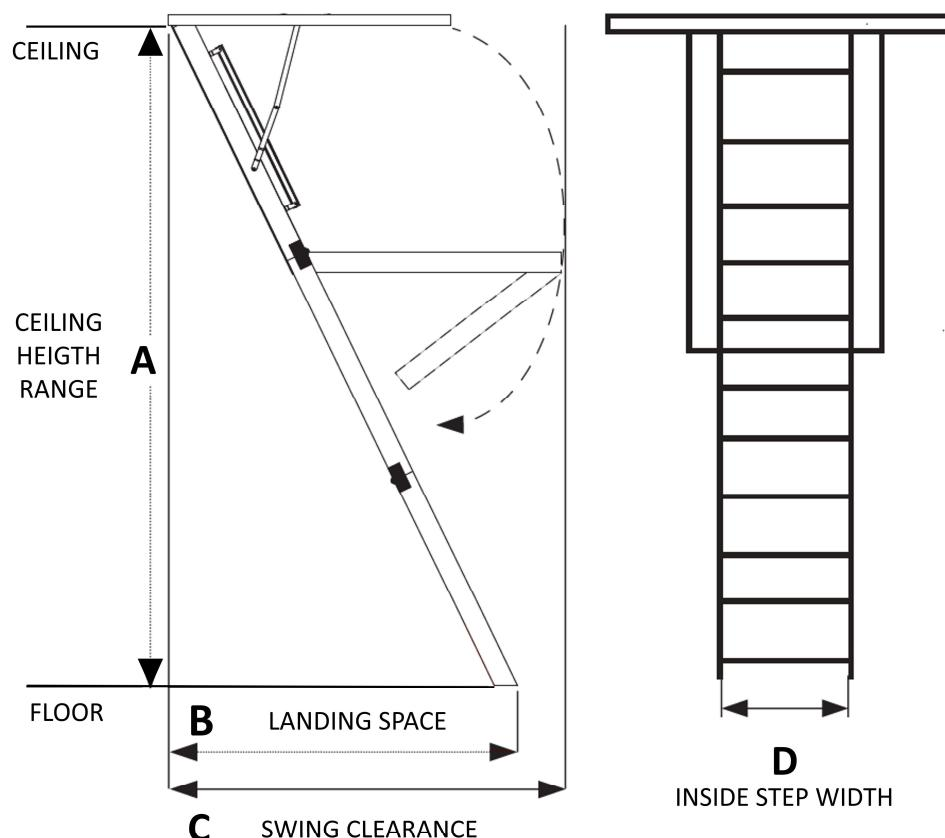

FIGURE 2
Allow ample room for the swing clearance and the landing space of the folding attic ladder when it is opened, (See **Figure 2** and **Table 3**). Locate the folding attic ladder rough opening so that you have adequate head clearance and walking area when entering the attic.
1. Replacement: Verify the current rough opening size and placement See **Figure 2** and **Table 3**. If adjustments are needed, see APPENDIX to reframe the rough opening.